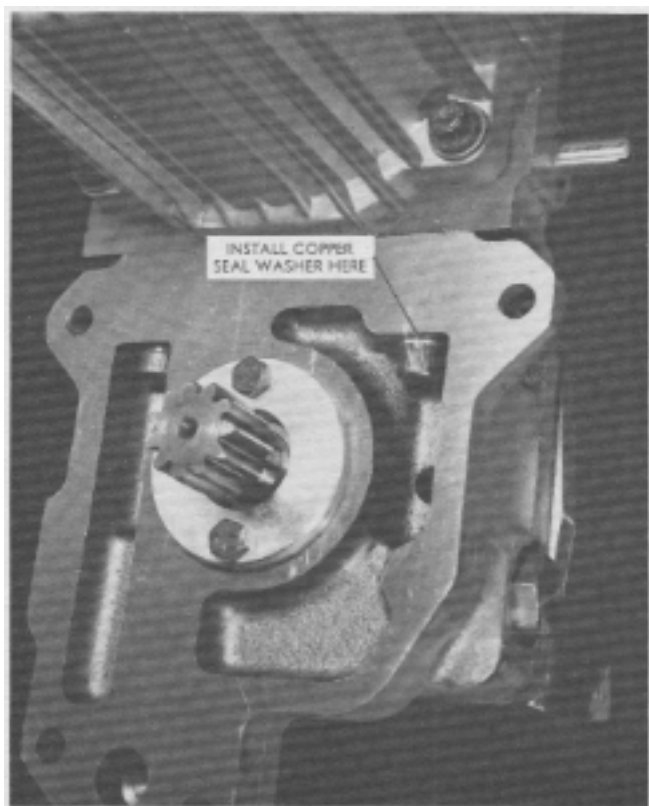

FIG. 19.
4. Make sure the copper seal washer is placed under the head of the right side motor-to-pump-bolt (right side means as viewed looking at the motor and the transaxle gasket surface). Proper placement of this washer will assure that internal leaks will not occur in this area when the motor is bolted to the transaxle. (Fig. 19).